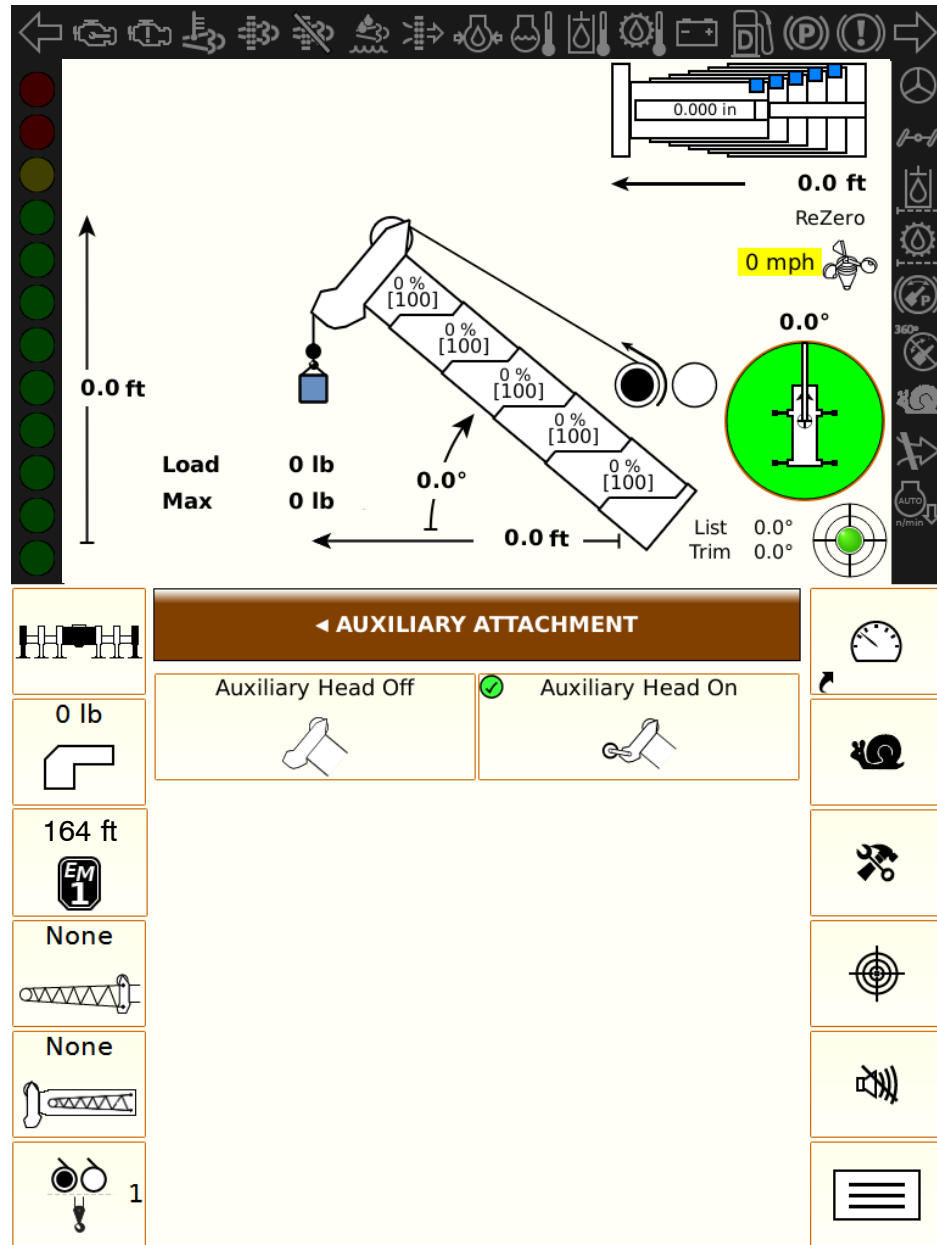

Figure 1–110
1. From the Main Menu Screen, press the Auxiliary Attachment Button . Refer to Figure 1–89.
2. The Auxiliary Attachment Menu will appear. The activation icon will be present on the button of the previously set configuration. Refer to Figure 1–110.